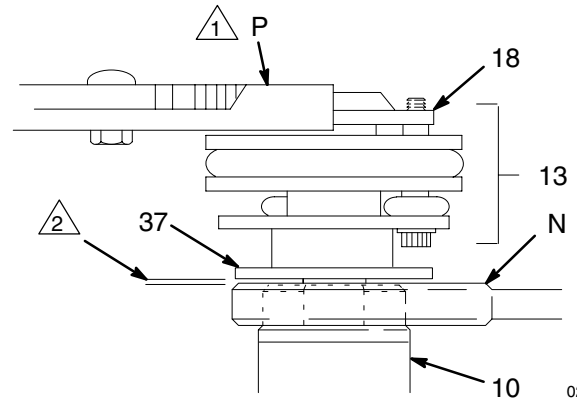

Fig. 6
1. Remove the shield capscrew (28) and the shield (56).
2. Unscrew the air cap (11) from the air cylinder (47). To remove the spring (35), gently pry under the coils in the direction of the helix. Check the spring and gasket (60) and replace as necessary.
3. Unscrew the air cylinder (47) from the base.
4. Hold the air exhaust plate (18) with a pliers (P) and the flats of the air piston rod (10) with a wrench (N), and unscrew the piston and valve assembly (13). See Fig. 6. Remove the washer (37) and spring (36).
7. When reassembling, apply locking compound to the threads of the screws and torque to 10–14 in-lb (1.1–1.6 N•m). With the washer (37) in place, apply thread sealant to the threads of the piston. Carefully screw the piston (11) onto the shaft (23) by hand so it is securely fastened. **Do not use a pliers on the air exhaust plate while tightening.** When installed, there should be a 0.8 mm (0.032 in.) minimum clearance between the washer (37) and the piston shaft shoulder. See Fig. 6.